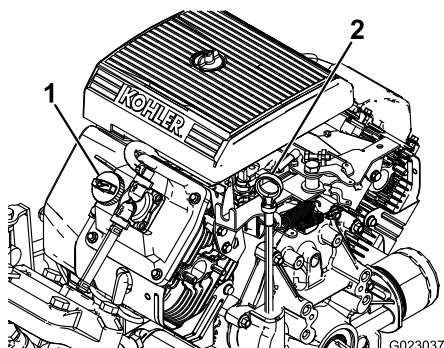

Figure 42
2. Remove the dipstick and wipe it with a clean rag (Figure 42). Insert the dipstick into the tube and make sure that it is seated fully. Remove the dipstick and check the oil level.
3. If the oil level is low, remove the filler cap from the valve cover (Figure 42) and pour oil into the opening until the oil level is up to the FULL mark on the dipstick. Add the oil slowly and check the level often during this process. Do not overfill.
8. Slowly pour approximately 80% of the specified amount of oil into the oil filler tube (Figure 42).